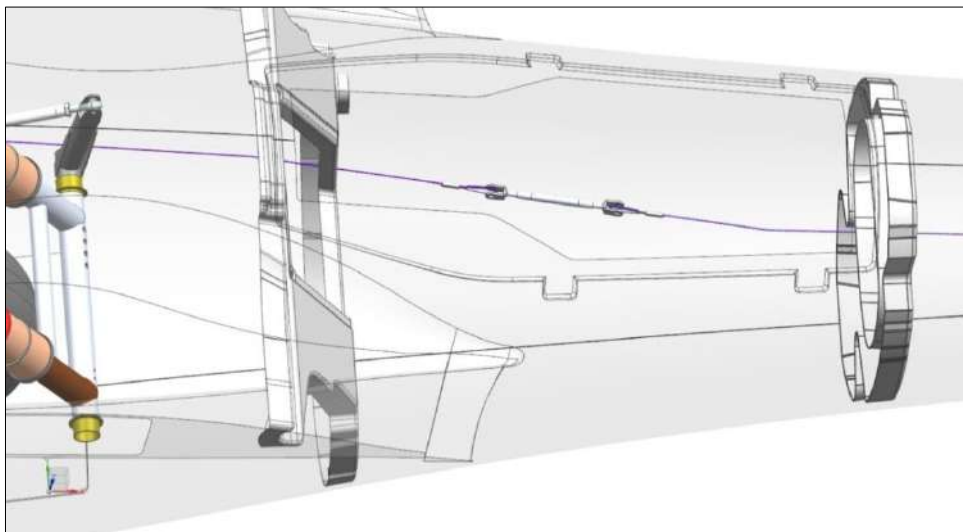

Figure 32-16: Turnbuckle in engine bay
5. Tighten the turnbuckle one turn at a time until the tail wheel bottoms out in the over-centre position (Figure 32-16).